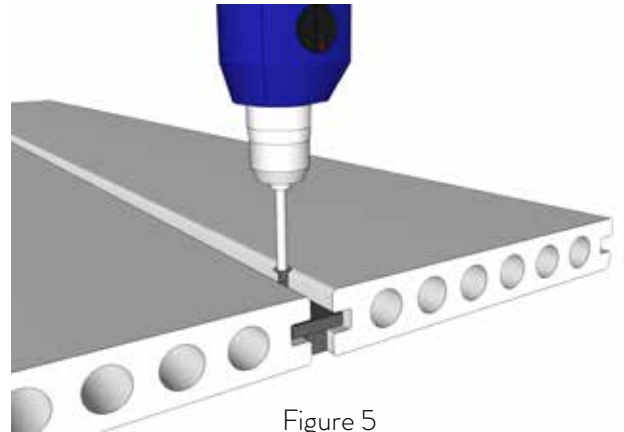

Figure 5
- 3 Install fixed and movable fasteners as shown in Figures 5 and 6:
- 8 Fix the fittings according to Figures 5 and 6, and complete the installation of the floorboards as a whole.